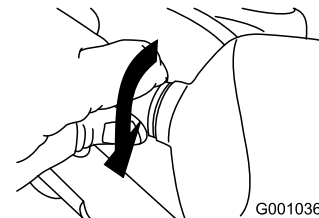

Figure 58
5. Turn the base of the bulb clockwise until it is snug (Figure 58).